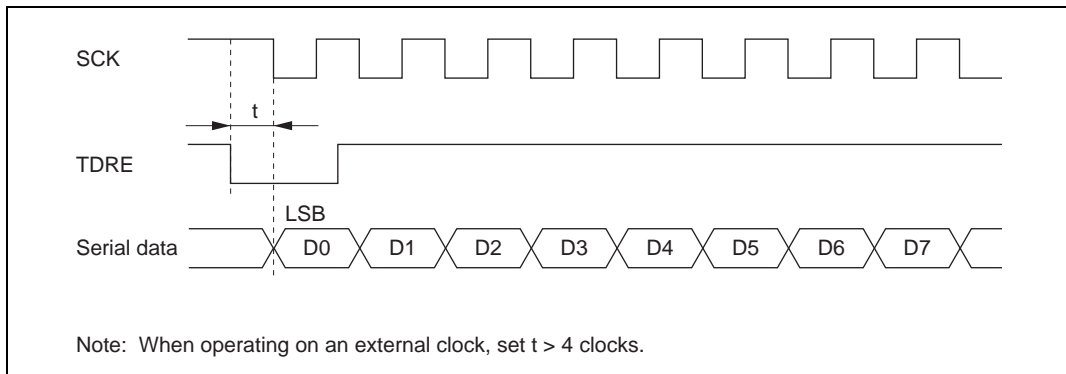

Figure 12.22 Example of Synchronous Transmission Using DTC
- When an external clock source is used as the serial clock, the transmit clock should not be input until at least 5 ϕ clock cycles after TDR is updated by the DTC. Misoperation may occur if the transmit clock is input within 4 ϕ clocks after TDR is updated. (Figure 12.22)